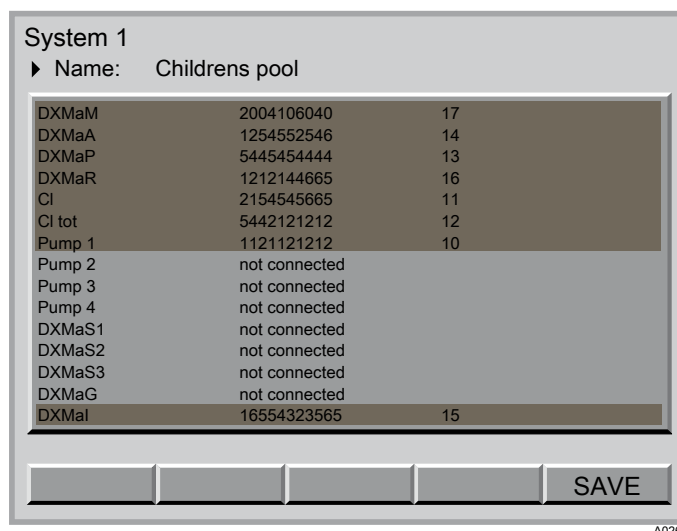

Fig. 8: Save assignment
3. F5 (SAVE) in display, see Fig. 8